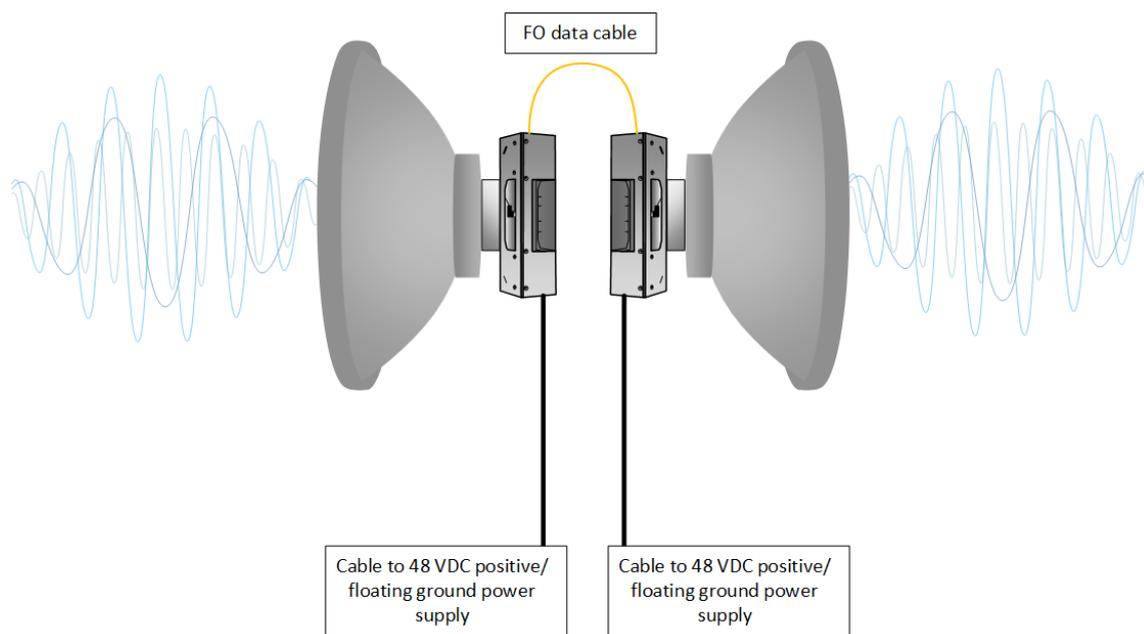

Figure 6-2 East/West (repeater) configuration using 48VDC power supply
- Use Integra-E/E2/E3 radios with 48 VDC power supply and a FO cable interconnection to reach speeds up to 10Gbps (*Figure 6-2*).